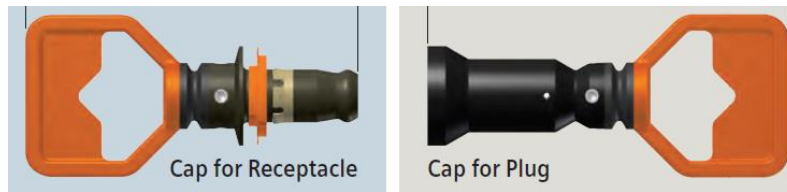

Figure 27 ROV-type Subsea Caps
- Subsea Protective Caps: Provides mechanical protection to the plug or receptacle connector (Figure 27). It is a **non-electrical** cap. The cap for the plug connector (female sockets, oil-filled) can be used for long-term mechanical protection. The cap for the receptacle (exposed male pins) **does not** protect the exposed male pins in the receptacle from corrosion. It should only be used for very short-term subsea use, e.g. the cap is removed within a few days after deployment and the flying lead connected to receptacle (noting that the 28 days maximum in section 9.3)